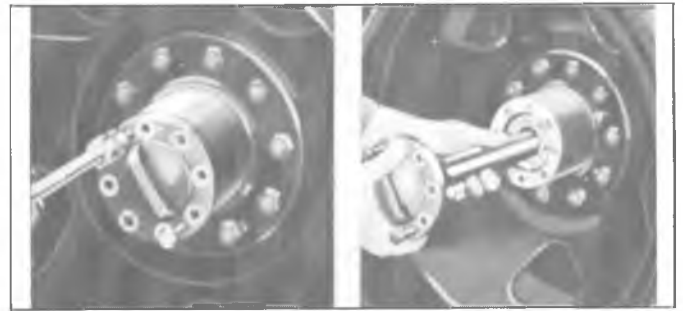

Fig. 31.—Removing Axle Shaft (5200 and 7200 lb. Axle)
2. Install two 1/2"-13 bolts in the threaded holes provided in the axle shaft flange. By turning these bolts alternately the axle shaft may be easily started and then removed from the housing (fig. 31).